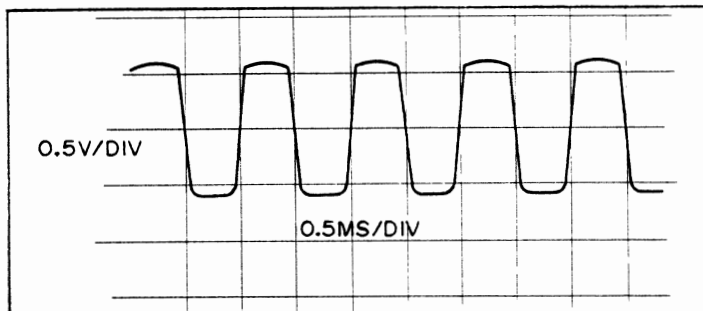

Figure 5-6. Current Detector A11R24 Adjustment.
- n. Adjust A11R24 for symmetrical waveform as shown in Figure 5-6.